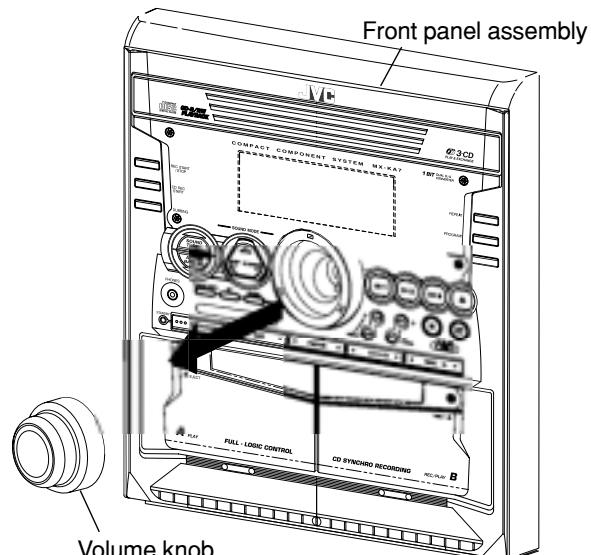

Fig.22
- Pull out the volume control knob from the front of the front panel assembly.(Fig.22)